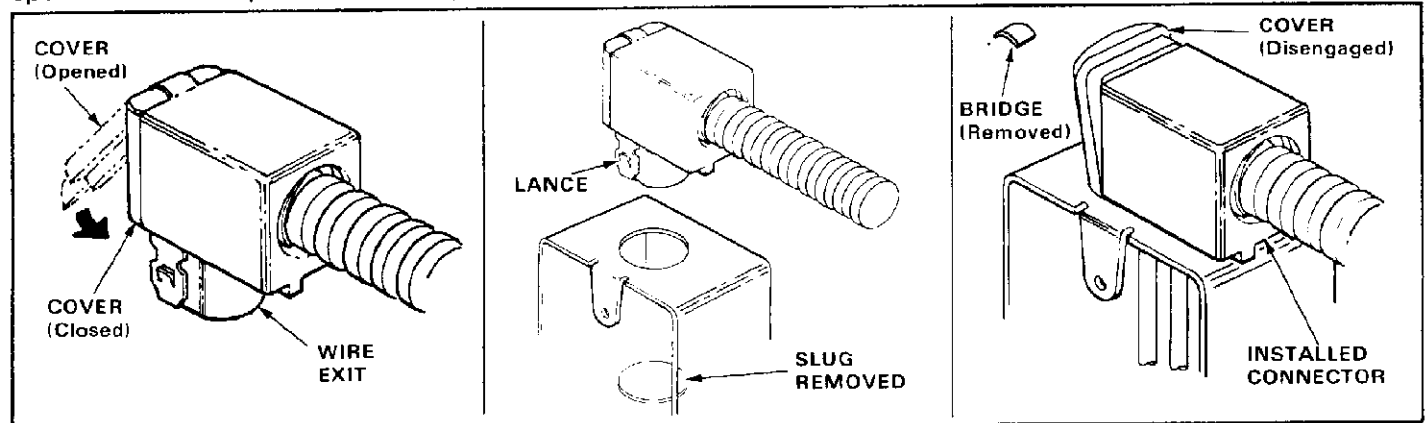

Fig. 3
4. CONNECTOR INSTALLATION (Figure 3)